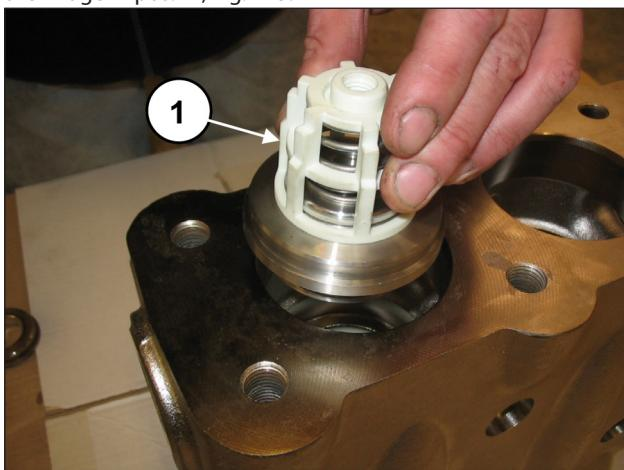
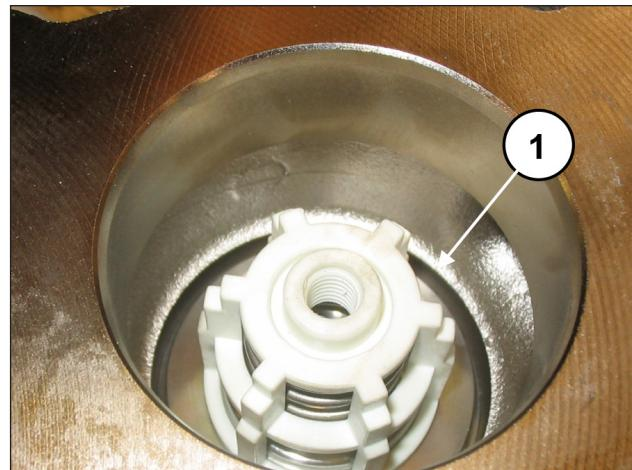

Fig. 124
Fig. 125
Insert the outlet valve unit (pos. ①, Fig. 124). The valve unit must be fully inserted into the bottom and should look like the image in pos. ①, Fig. 125.